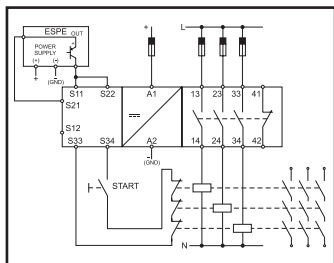

Fig. 9: ESPE 1 uscita PNP a 2 fili /
- ESPE with one PNP two-wires output (e.g. optocoupled PNP-type): connect the emitter output to the S21 terminal and the collector output to the S11 terminal; short-circuit S11 with S22, leaving S12 not connected (fig. 9 max. Safety cat. 2, PL: c).
In Fig. 9 and 10 are shown the connections of ESPE with 1 two-wires output: one ESPE output wire is connected to S21, while the other is connected to S11 and S11 is short-circuited with S22.